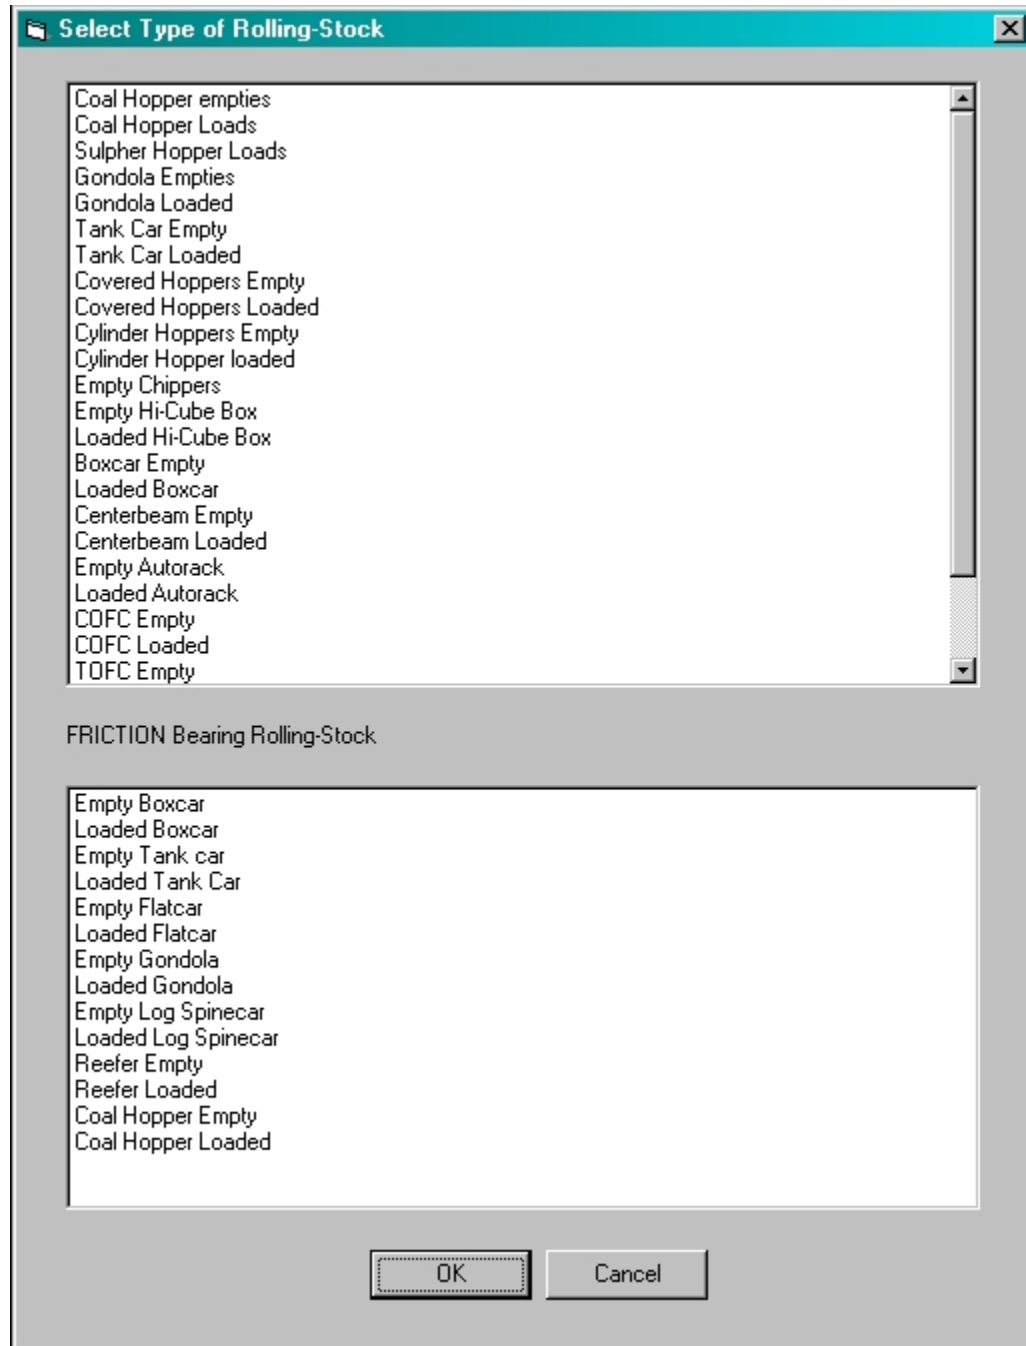

Figure 203
13. Once you have all the items highlighted, left-click the *"Update Friction"* Button and you will see a new window as shown in Figure 203. As you can see I have already calculated the Friction values for several pieces of rolling stock including Friction Bearing Equipped rolling stock.